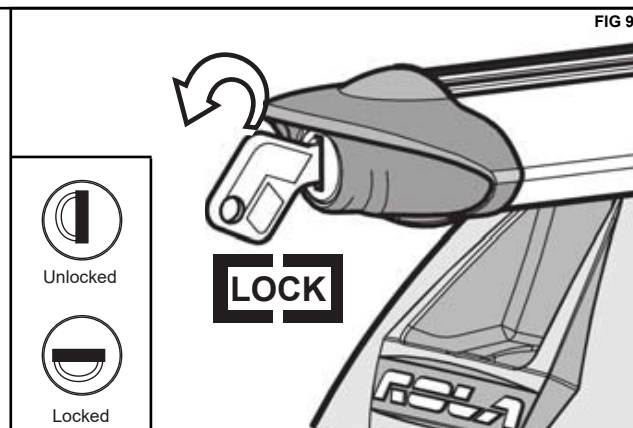

FIG 9
- Push through until the End Cap edge comes to rest against the edge of the Cross Bar. This is important as the Locking Actuator inside the End Cap has to locate within the Locking slot on the end of the Cross Bar (Fig. 9).